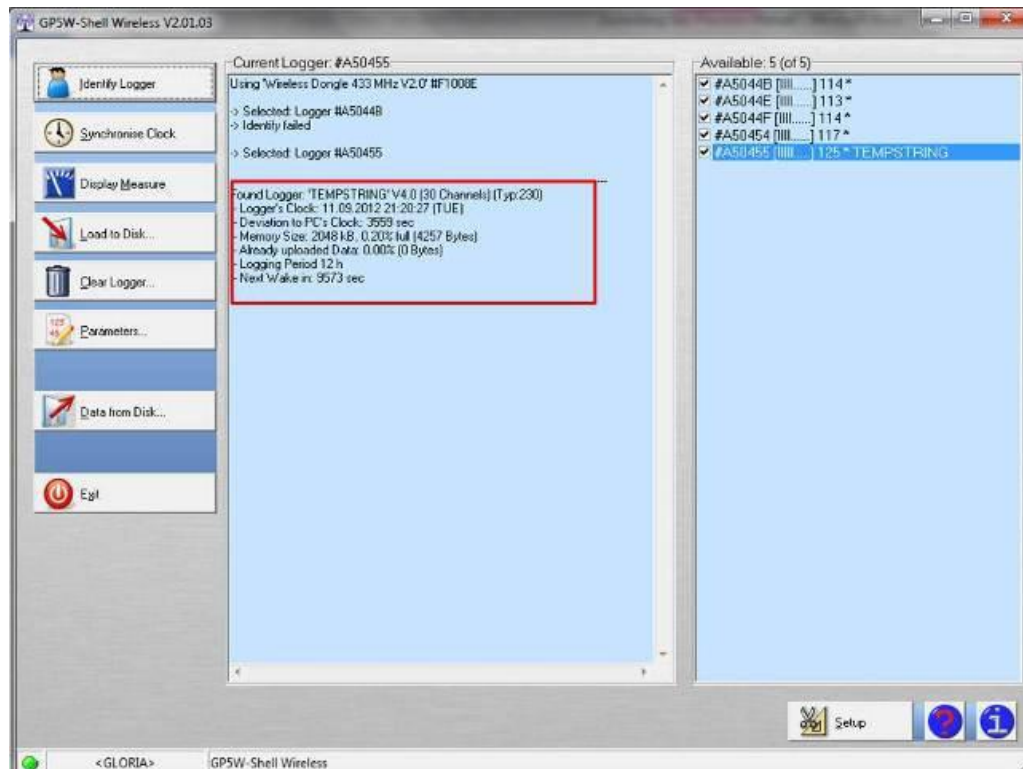

Fig.5.4. In the red box on the left, battery status, memory status and logger time.
2. Once you have clicked “identify logger” it will attempt to connect, once connected it will give the current logger status such as seen below in Fig.5.4.